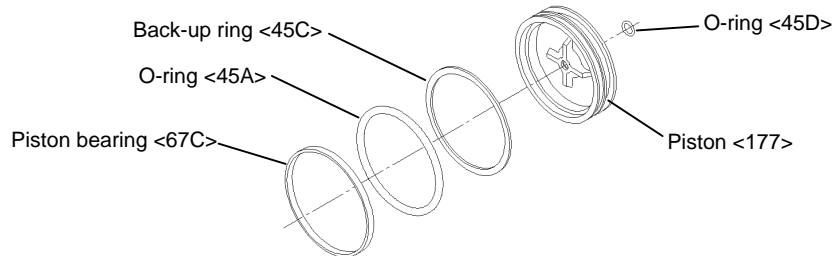

Fig.13
- (1) Lubricate a larger O-ring, a smaller O-ring, a bearing, and a back-up ring with Kyodo Oil MULTEMP AC-J lubricant or the equivalent, and assemble them with the piston (Fig.13). Contact KITZ Corporation for advice, if this lubricant is not available.